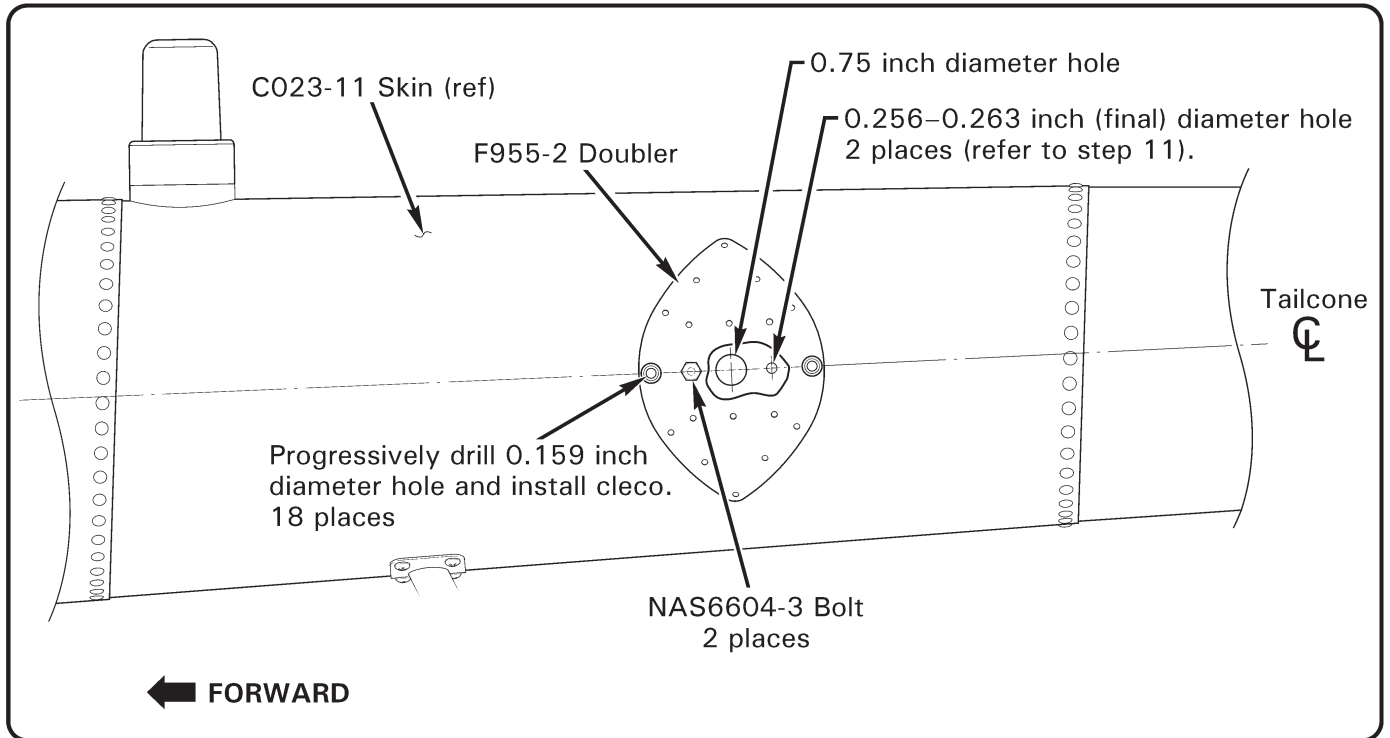

FIGURE 6 Positioning doubler for drilling
10. Refer to Figure 6. Locate (1) F955-2 doubler to tailcone using (2) NAS6604-3 bolts and secure with tape as required. Mark doubler to indicate top & bottom, and left or right side of tailcone. Using doubler as template and a #21 drill fitted with drill stop, begin at center of doubler working outward and progressively match drill 0.158-0.164 inch diameter hole & install clecos thru C023-11 skin (18) places. Remove securing hardware & doubler. Repeat procedure on opposite side of tailcone using remaining doubler.
11. With both doublers removed and using letter "F" twist drill fitted with drill stop, enlarge (2) forward & (2) aft 0.250 inch diameter bolt holes in C023-11 skin to 0.256–0.263 inch final diameter. Deburr all newly drilled holes and clean up debris (strobe light may be removed per MM § 33-11 to facilitate access to tailcone interior).